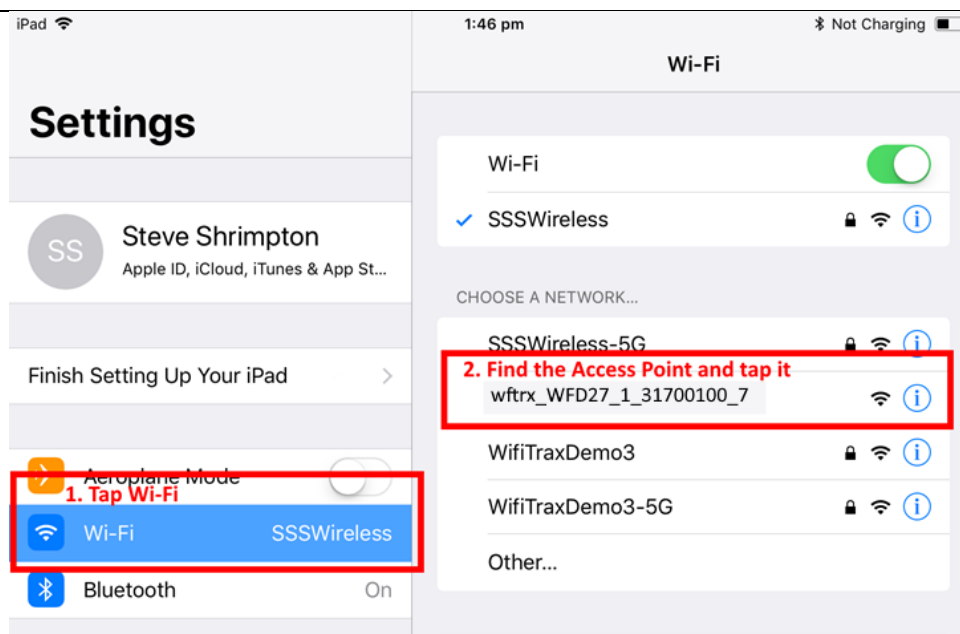

Figure 4 Connecting to the WFD-27 Wi-Fi Access Point
- (3) Before opening the app, make sure your WFD-27 is connected, powered up and there is a locomotive on the track with a known DCC address. Both the red power LED and the blue DCC indicator LED should be alight.
- (4) Now run the Settings app on your iPhone (or iPad etc.):
- (5) Tap Wi-Fi on the left-hand menu. You should see a collection of available Wi-Fi Access Points on your right. Look for one that is of the form wftrx_WFD27_1_XXXXXXXX_7, where XXXXXXXX is the serial number of your unit that appears on its bag and the unit itself. Tap that Wi-Fi Access Point as Figure 4.